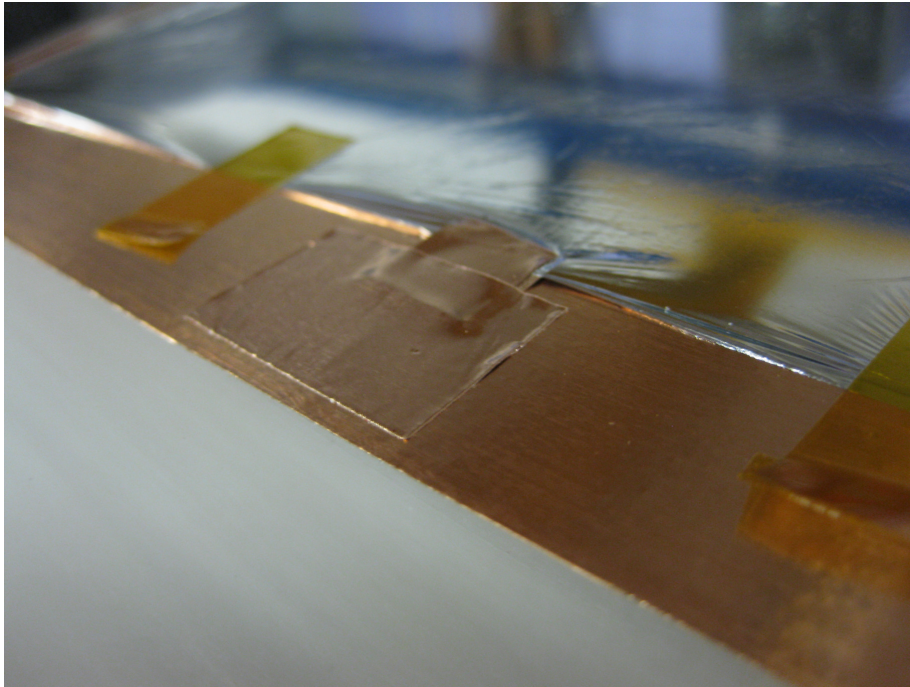

Figure 24: A new rectangle of copper tape is laid down over the back edge of the copper connection tab. This piece does not overlap the thin-film.
5. Connect the tab to the landing strip with a piece of copper tape (Figure 24).